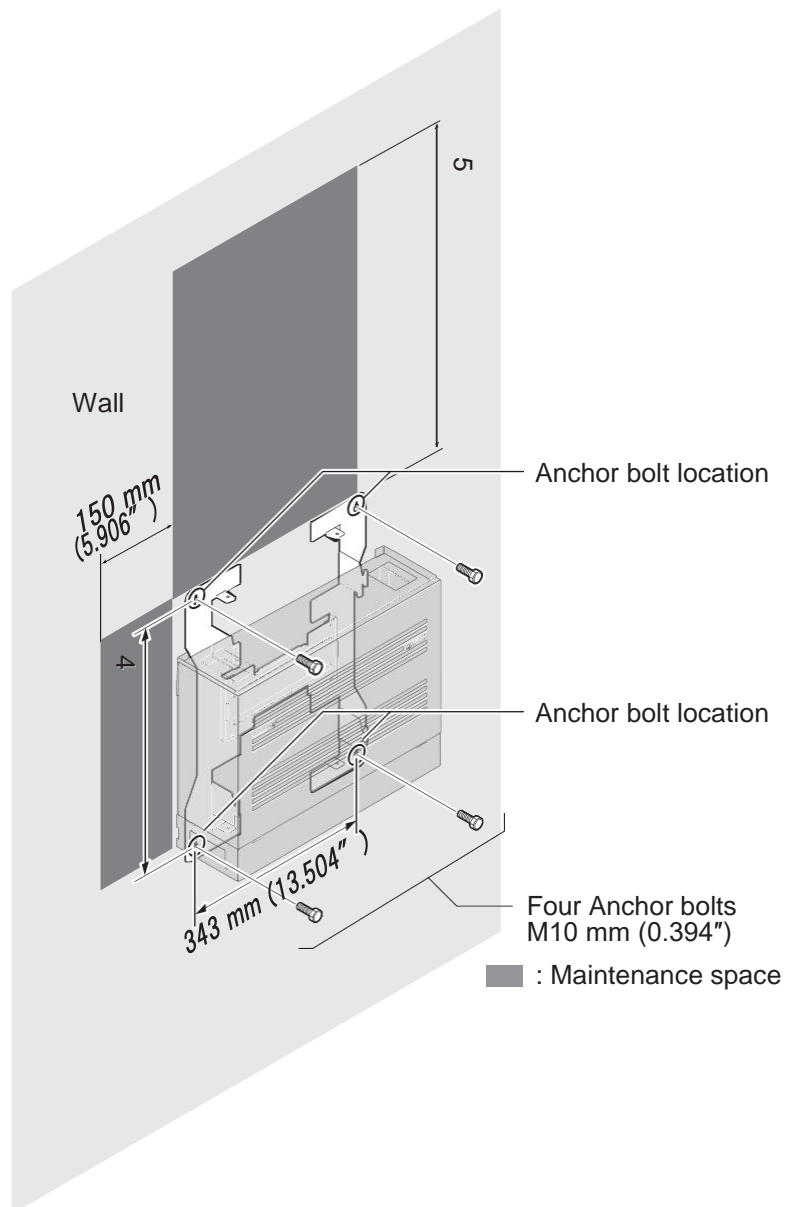

Figure 2-45 Wall-Mount Spacing Guide
2. Refer to Figure 2-45 Wall-Mount Spacing Guide for required spacing before drilling holes for 10 mm anchor bolts (locally procured).